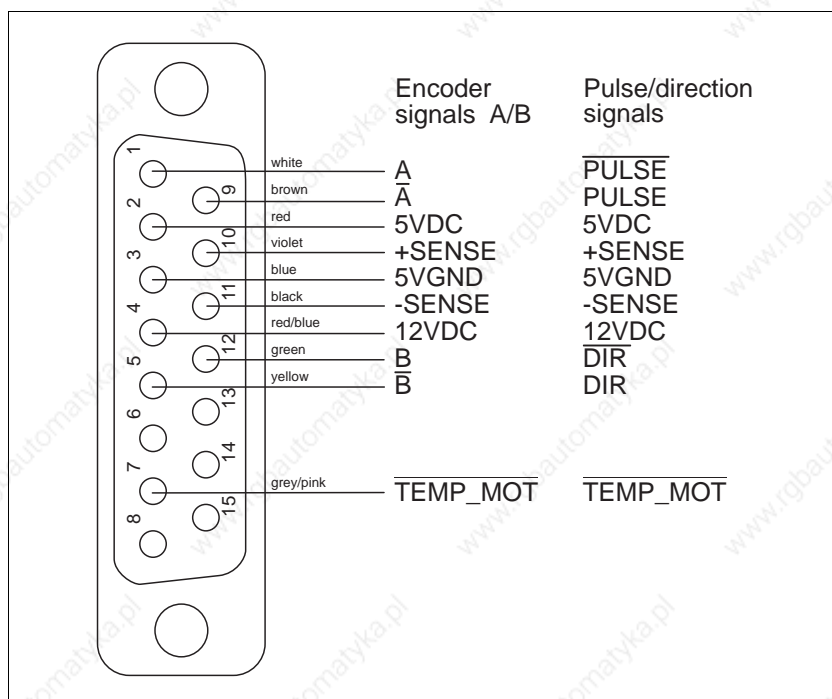

Fig. 2-19 Encoder connector – device end
1. Solder the litz wires to the connector as illustrated in fig. 2-19.